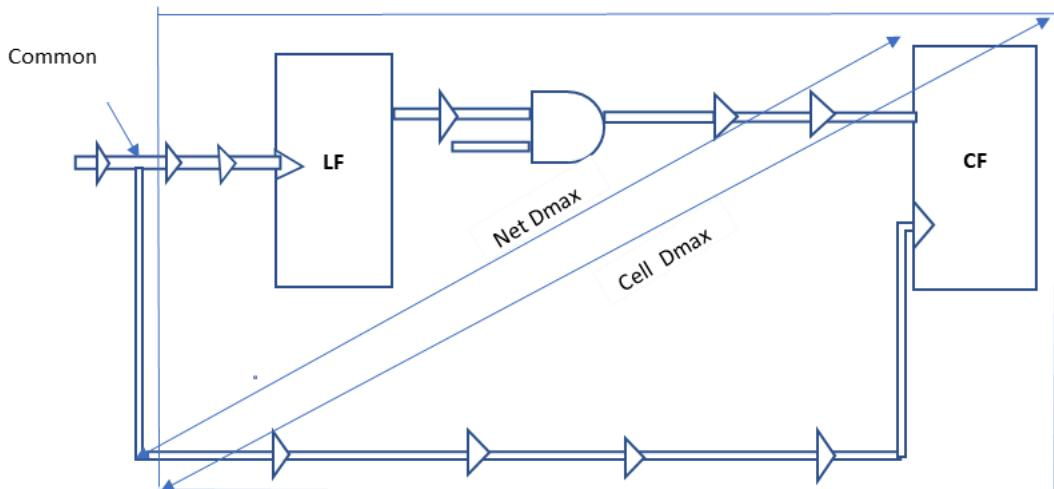

Fig3: Bounding box for cell and net distance
- In AOCV, derate is applied to each cell based on the path depth and distance of the cell in the timing path, and it also varies with the cell type and drive strength of the cell. Distance is defined by a bounding box for the net and cell, as shown in Figure 3.